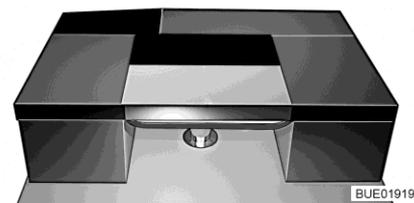

Fig. 162 After conversion
- Place the additional cushion horizontally onto the table (see Fig. 162).